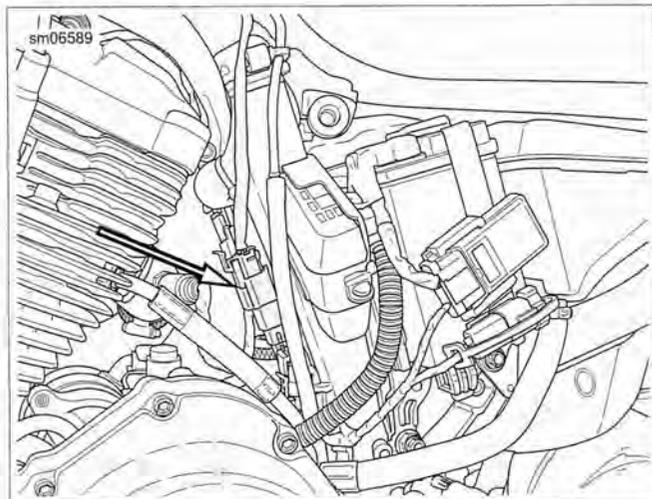

Figure 4-11. Fuel Pump Connector Location
- a. See Figure 4-11. Unplug fuel pump connector [141].